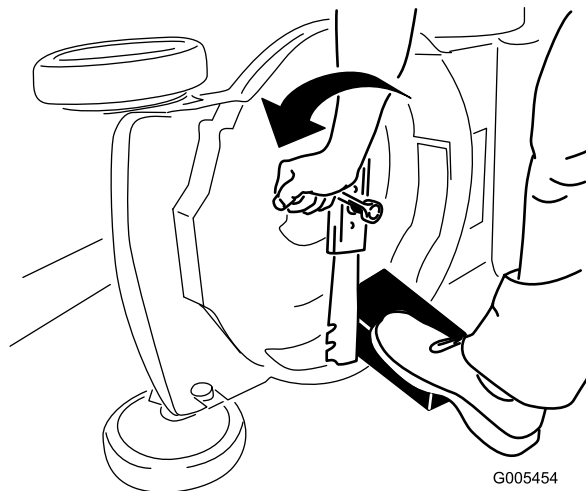

Figure 43
3. Use a block of wood to hold the blade steady (Figure 43).